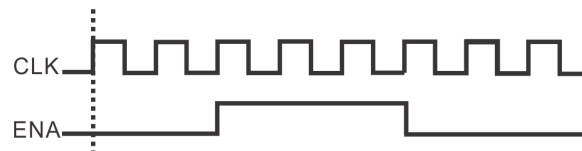

Fig. 1
- 5) T F Fig. 1 shows a CLK and an ENA signal. Within the two dotted line, according to the transition activities of the ENA signal, we can determine the activity factor of ENA is 3/8.